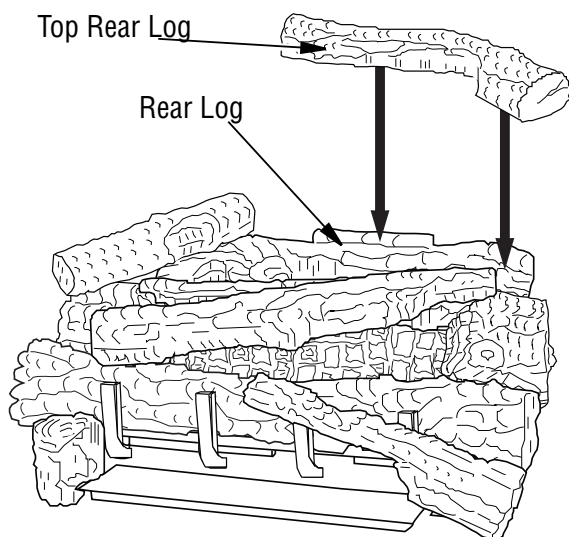

Figure 39 - Installing Top Rear Log
- Place fiber ramp log in center of chassis as shown in **Figure 39, Page 23**. The fiber ramp log can be identified by the shape and much lighter weight when compared to the other logs. The log must sit flat on the black sheet metal and behind the left metal tab as shown. Make sure the side marked "BOTTOM" is setting down.
12. Place the top rear log (18" D-071, 24" & 30" D-045) onto the rear log as shown. The rear log has a projection that will fit into the recess area on the bottom of the top rear log (see **Figure 39**).